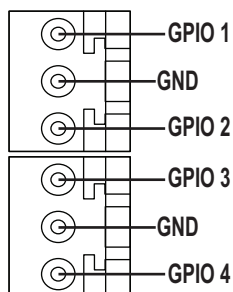

Figure 15 R4-GATOR Designations — GPIOs
**Figure 15** shows the GPIO designations for the R4-GATOR rear module (P/N 8323AR-325).